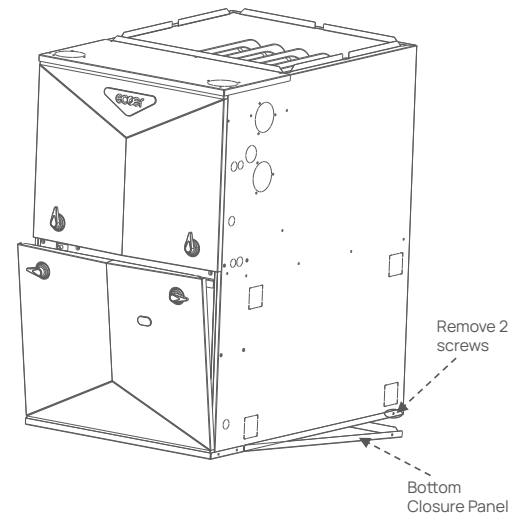

Fig. 5 – Removing Bottom Closure Panel
- ① Tilt or raise furnace and remove the screw holding bottom filler panel. (See Fig. 5.)
- ② Remove bottom closure panel.
1. Tilt or raise furnace and remove 2 screws holding bottom plate. See Fig. 5.